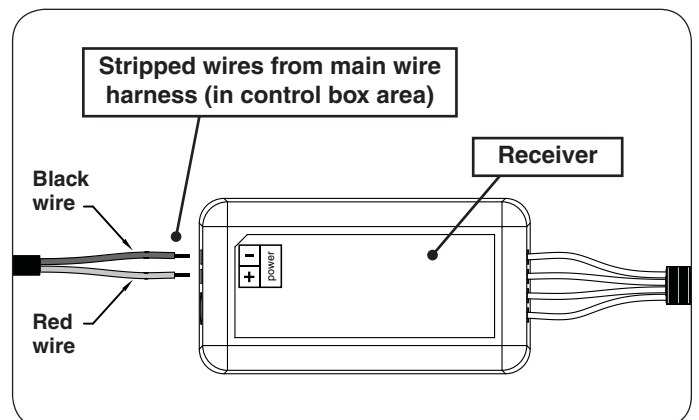

Fig. 22-3 Connect receiver wires
3. Insert the hardware (small hardware kits) in the order shown in Fig. 22-3. Hand tighten, then use two $\frac{1}{2}$ " open end wrenches (or equivalent) to fasten.
2. Connect the stripped wires to the remote receiver: (See Fig. 22-3)